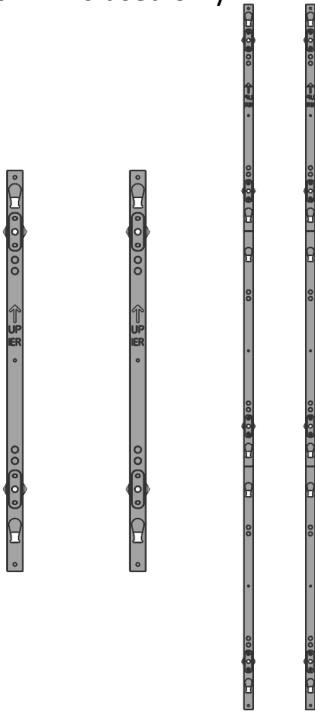

Fig 4. FRAME F ( LV1, LV3 )
- There are two types of Frame Kits (LV1 & LV3) for installation of IER-F Landscape (Fig 4).